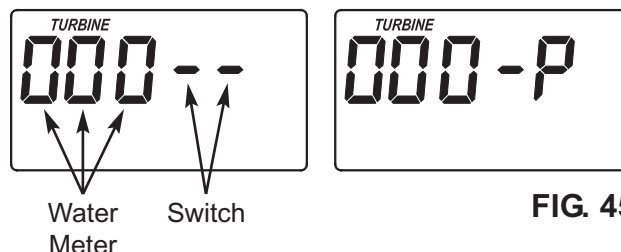

FIG. 45
3. The letter "P" and a dash (or dashes) indicate POSITION switch operation (See Figure 45). If the